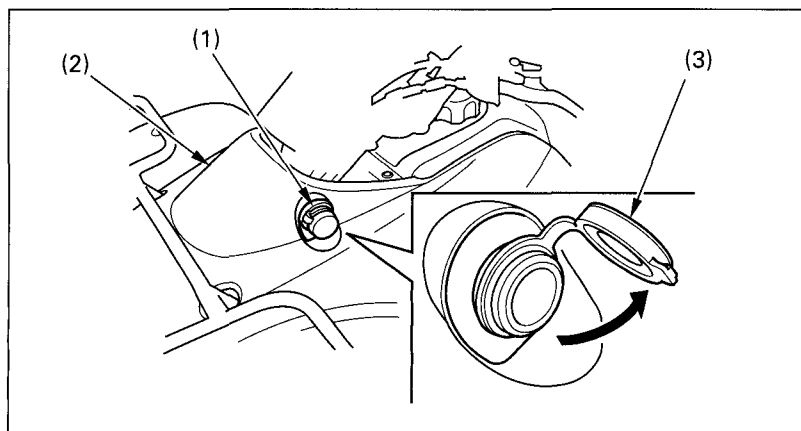

Fig. 2-31
The accessory socket (1) (Fig. 2-31) is attached to the left side of the front fender (2). You can use the accessory socket to power a trouble light, spotlight, CB radio, or cell phone, etc.